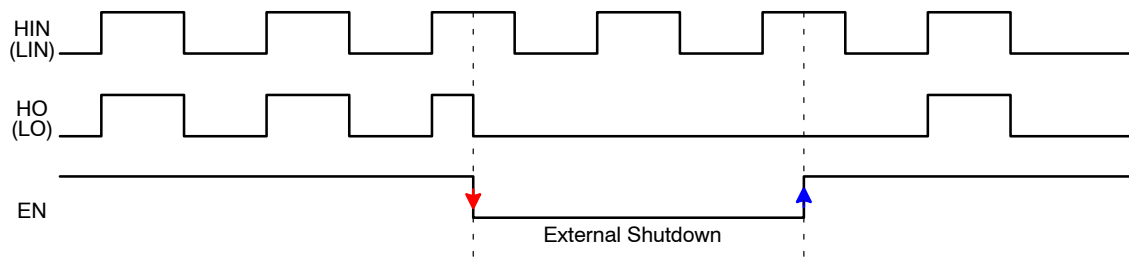

Figure 27. Timing Chart of Enable Function
Enable (EN) is internally pulled low to SGND so the driver is always defaulted to a disabled output status. Similar to HIN and LIN, EN is a Schmitt trigger TTL compatible input. Pulling the EN pin above 2.5 V maximum, enables the outputs, placing the NCP51810 into an active ready state. Due to the nature of high-speed switching associated with GaN power stages, and for improved noise immunity, it is recommended to connect the EN pin to V_{DD} through a 1 kΩ (or less) pull-up resistor. For applications where the EN pin is actively controlled, the EN pin can be driven direct but should be bypassed with a 10 nF decoupling capacitor. As shown in Figure 27, if EN is pulled low during normal operation, the driver outputs are immediately disabled, even terminating an active HIN or LIN pulse mid-cycle during the on-time. When EN is toggled high, during normal operation, a cycle-by-cycle, edge-triggered logic function is employed to prevent shortened, erroneous control pulses from being processed by the output. This behavior is highlighted in Figure 27, where EN transitions high at the same time the HIN (or LIN) input pulse is high. In this way, the NCP51810 is intelligent by waiting until the next rising edge to process the full input signal to the output driver stage.